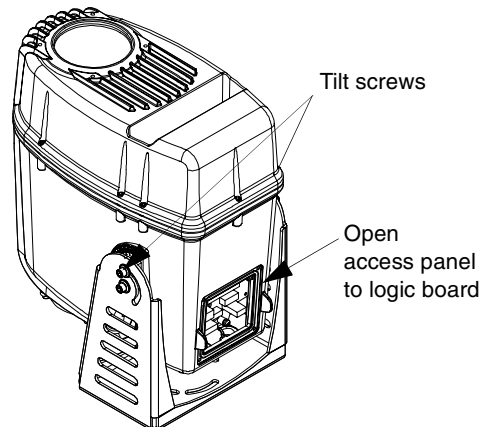

Figure 1-2. Rotate fixture and open access panel
2. Use the 1/4 in. allen wrench to loosen the tilt screws on both sides of the yoke and rotate the fixture to the position shown in Figure 1-2. Tighten the tilt screws. Use a small, flathead screwdriver to loosen the access panel retaining screws and remove the access panel.